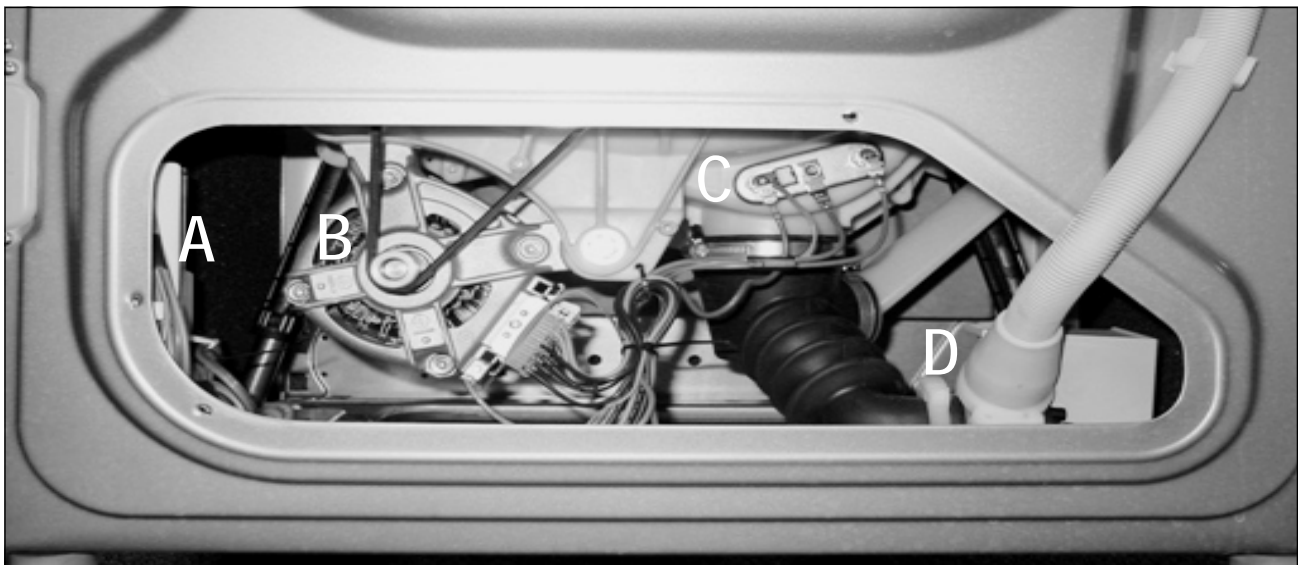

Fig. 8-1
- With the Rear Access Panel Removed you have access to the following components (Fig. 8-1).